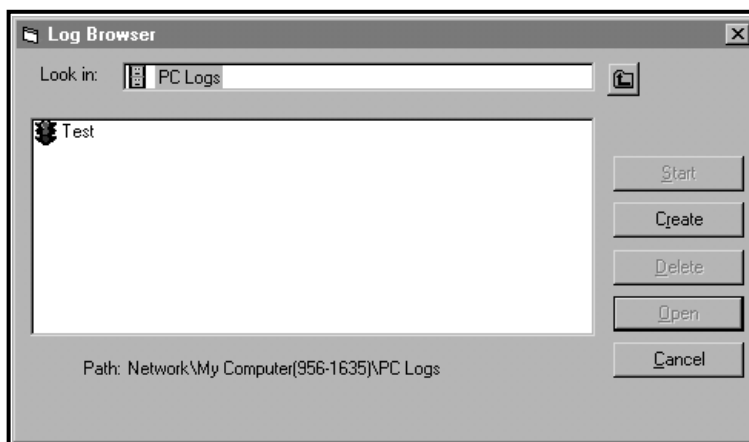

Figure 16: Create a PC Log
3. Double click on *PC Logs* to advance to the dialog box shown in Figure 16.
4. At the dialog box shown in Figure 16, click on the **Create** option button to create a new meter log.